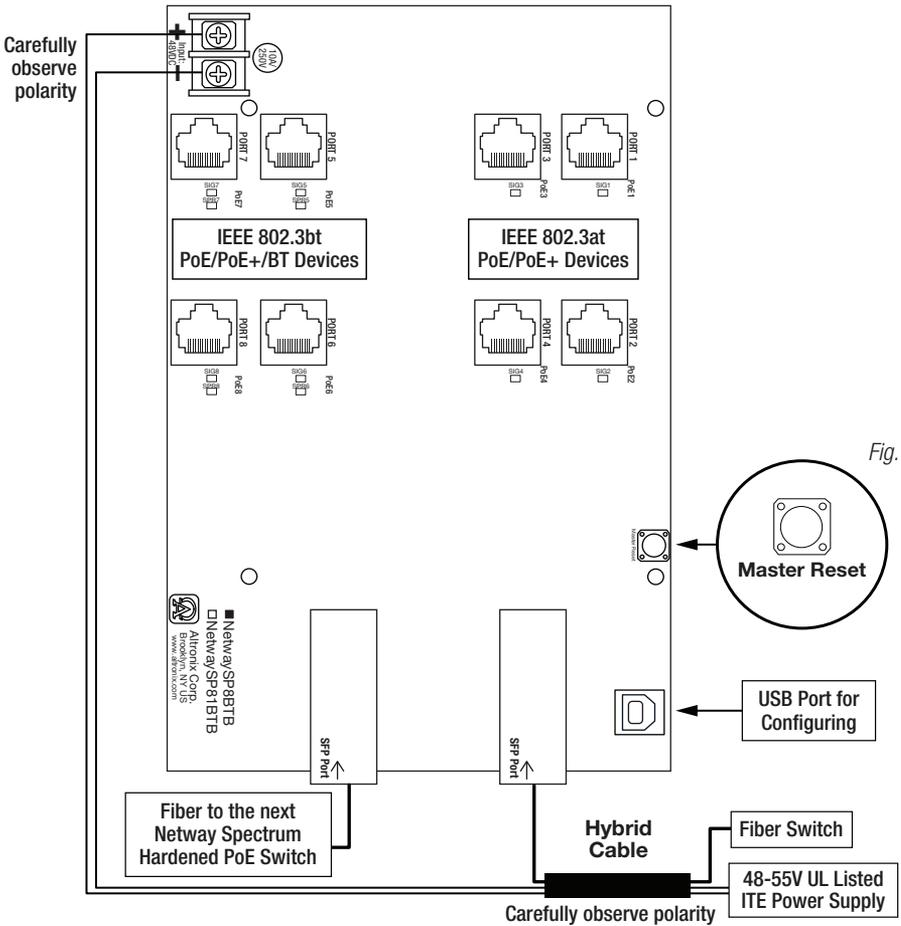

Fig. 3a
2. Depress Master Reset button on NetWaySP8BTB while reapplying power to the unit (Fig. 2, pg. 4, Fig. 3a, pg. 5, Fig. 4a, pg. 6).